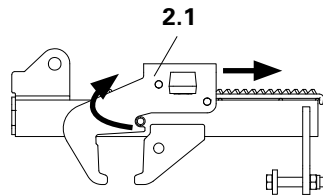

Fig. A4.01
1. Release wedge and remove sliding part (2.1). (Fig. A4.01)